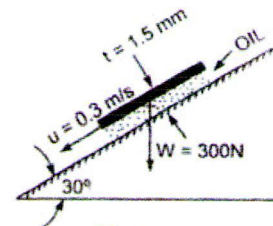

Fig. 1.4
**Problem 1.7** Calculate the dynamic viscosity of an oil, which is used for lubrication between a square plate of size  $0.8 \text{ m} \times 0.8 \text{ m}$  and an inclined plane with angle of inclination  $30^\circ$  as shown in Fig. 1.4. The weight of the square plate is  $300 \text{ N}$  and it slides down the inclined plane with a uniform velocity of  $0.3 \text{ m/s}$ . The thickness of oil film is  $1.5 \text{ mm}$ .